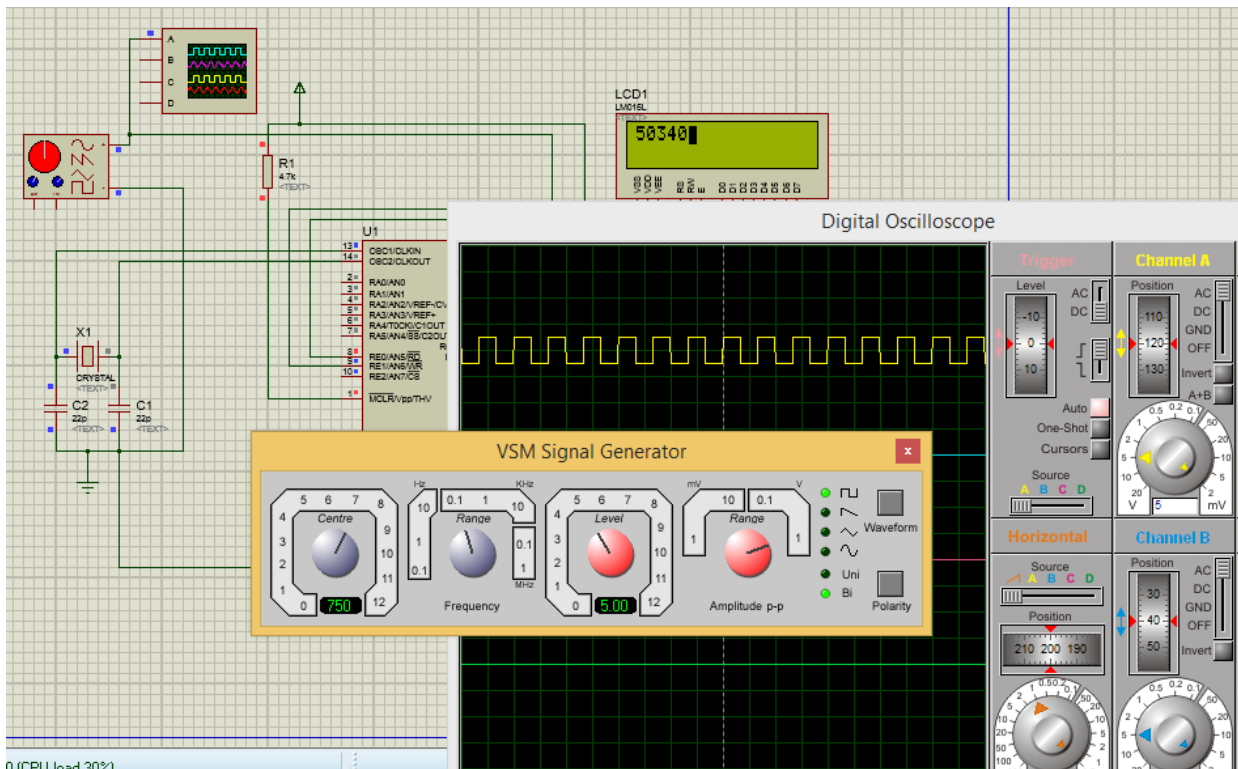

Figure 9: Capture mode results
11. Set the values according to the Figure 9. Observe the outputs you get.